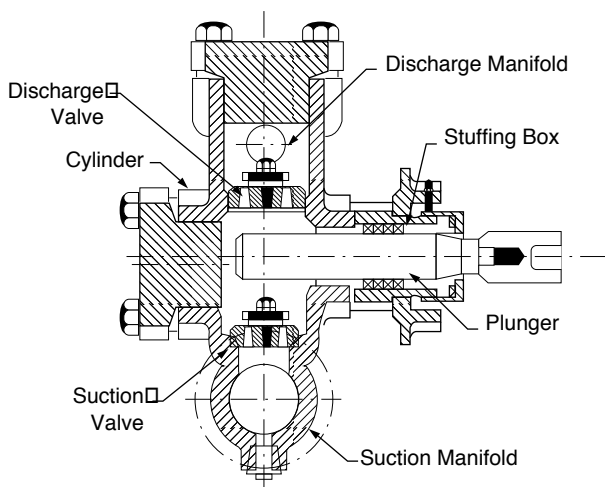

FIGURE 72. Liquid End of a Horizontal Power Pump
- The liquid end comprises the cylinder, plunger or piston, stuffing box, check valves, and manifolds (Figure 72).